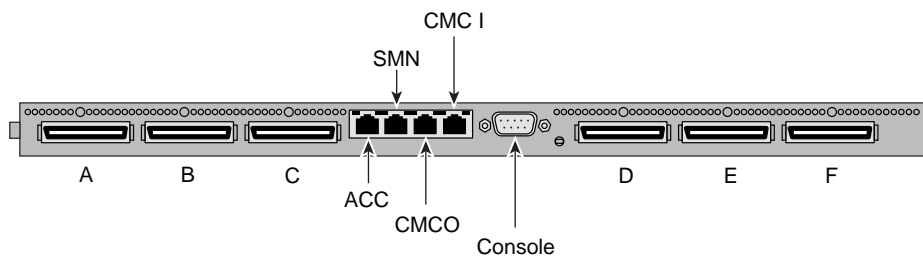

Figure 1-2 Altix UV 100 CMC Connections
- A direct ethernet connection to a CMC, see Figure 1-2 (you must connect to ACC).
- A serial connection to the “Console” port (see Figure 1-2) on the CMC.
- An in-rack system console can be directly connected to the optional system management node via VGA and PS2. You can then log into the SMN and perform system administration either through CLI commands or via the SGI Management Center interface. Note that the CMC ethernet connect port, (labeled **ACC** - see Figure 1-2 on page 4) requires connecting to a network with a DHCP server if the SMN node is not used. The CMC is factory set to DHCP mode and thus has no fixed IP address and cannot be accessed until an IP address is established. If unknown, the IP address must be generated by accessing the CMC directly using a serial connection.